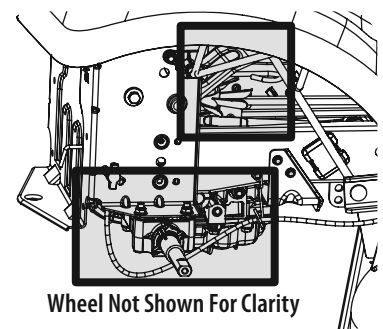

Figure 34
- Clean around and near the transmission, axle and the fan area. See Figure 34.